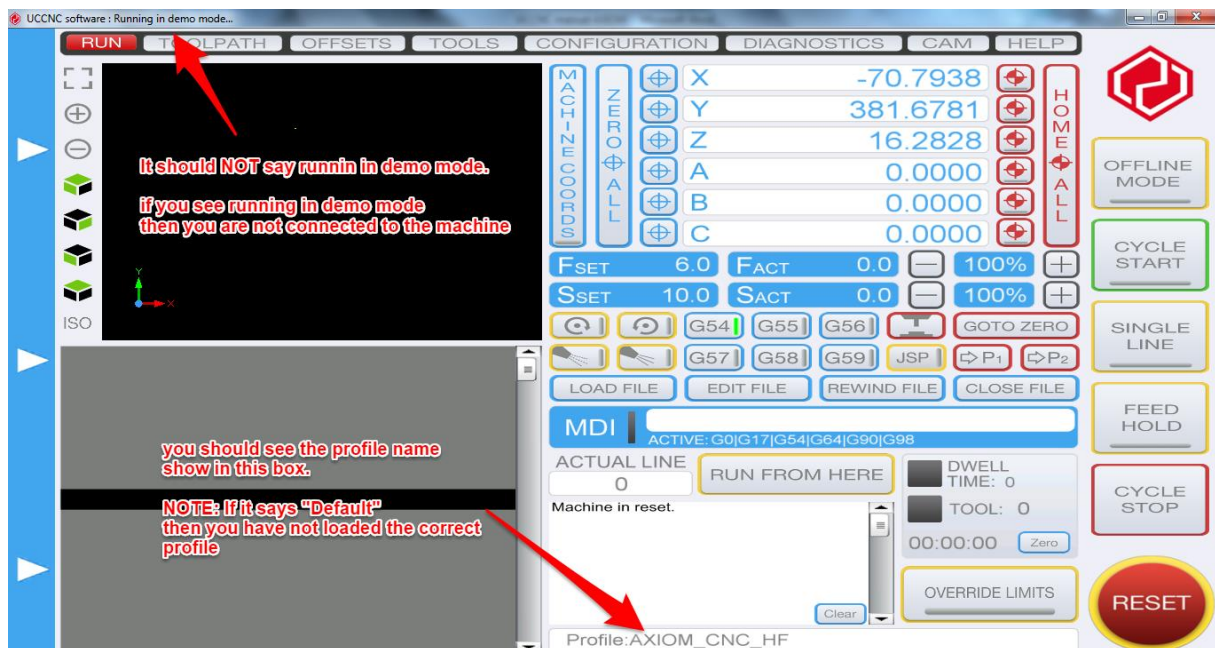

Figure 42: UCCNC main screen summary
- Figure 42 shows the main screen once you open the UCCNC controller.